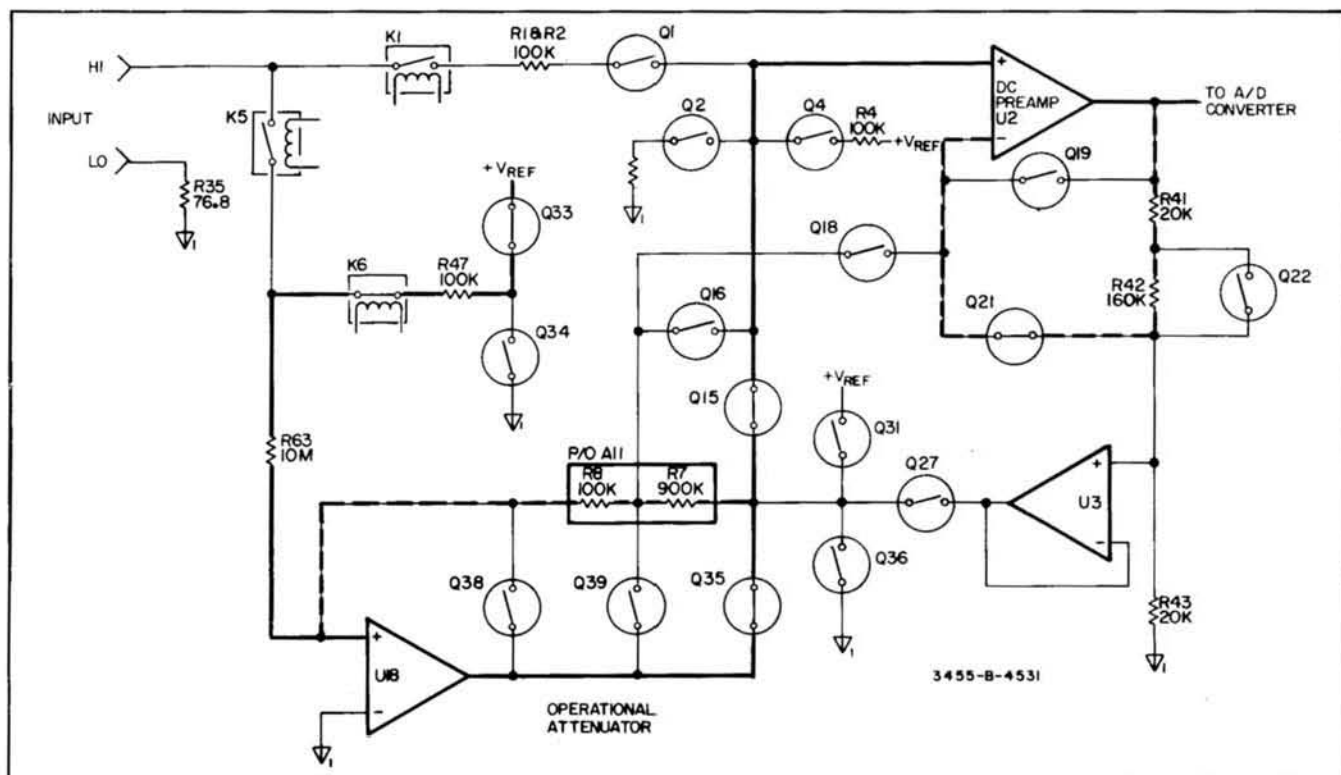

Figure 8-13. 100 V dc and 1000 V dc Gain Error Measurement.
**8-31. 100 V dc and 1000 V dc Gain Error Measurement.** Figure 8-13 shows the circuit arrangement for making the 100 V dc gain error measurement. The reference voltage is